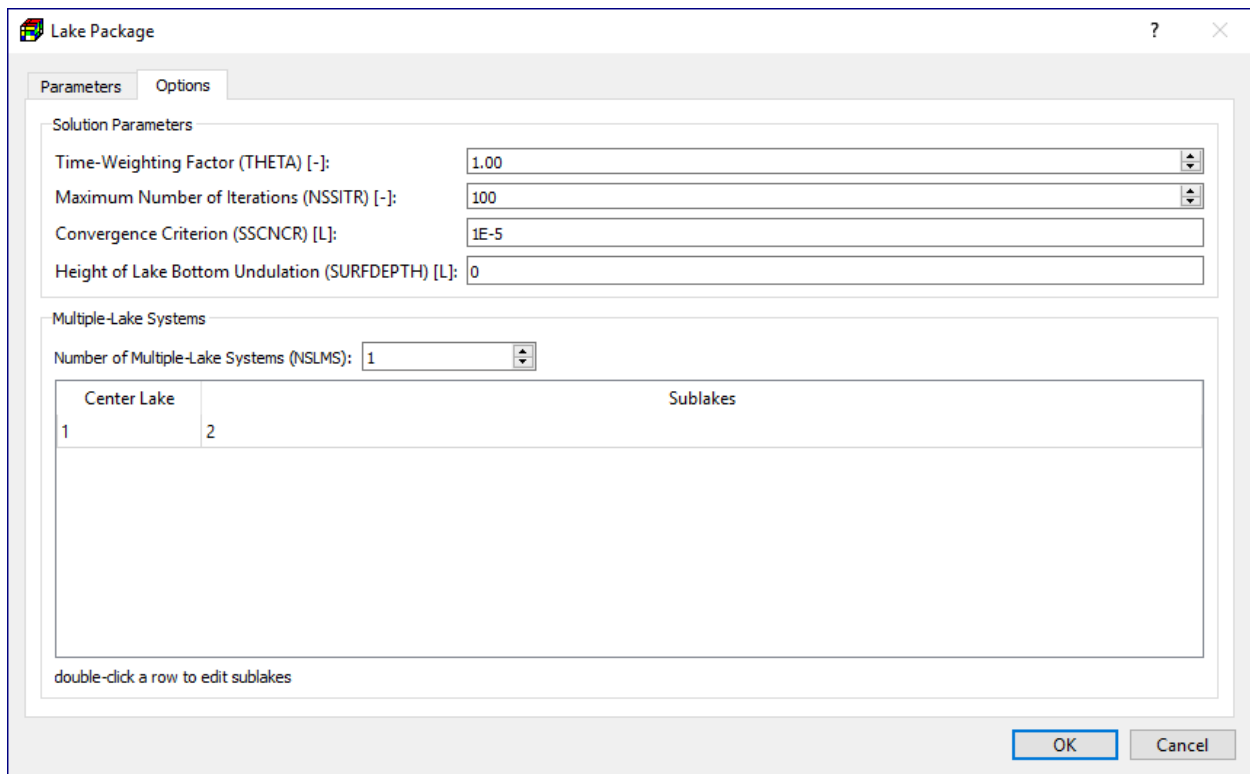
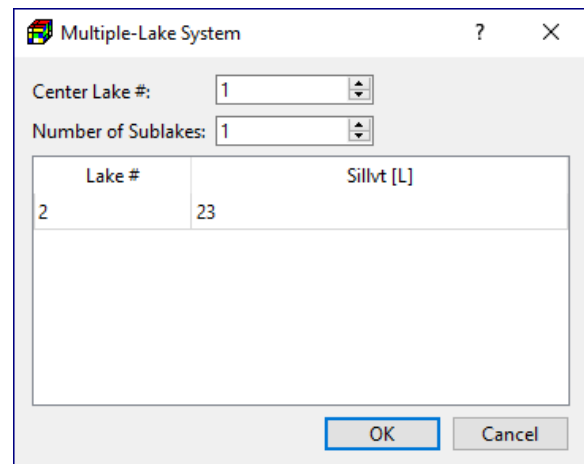

Figure 72. The Options tab of the Lake Package dialog box
Figure 73. The Multiple-Lake System dialog box
- **Options Tab (Figure 72)**
- **Table:** Each row of the table in Figure 72 represents a multiple-lake system. The Center Lake column lists the lake identification number of the center lake of the system; the Sublakes column lists the lake identification numbers of sublakes of the system. Double-click a row to edit the multiple-lake system in the Multiple-Lake System dialog box (Figure 73). The items of the dialog box are as follows: